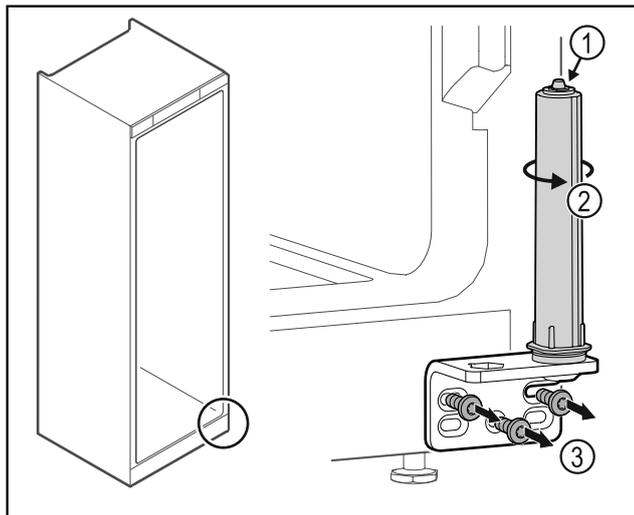

Fig. 37
- ▶ Do not disassemble the door closing system Fig. 37 (1).
- ▶ Turn the closing system Fig. 37 (2) until it clicks.
- ▶ Unscrew the hinge Fig. 37 (3).